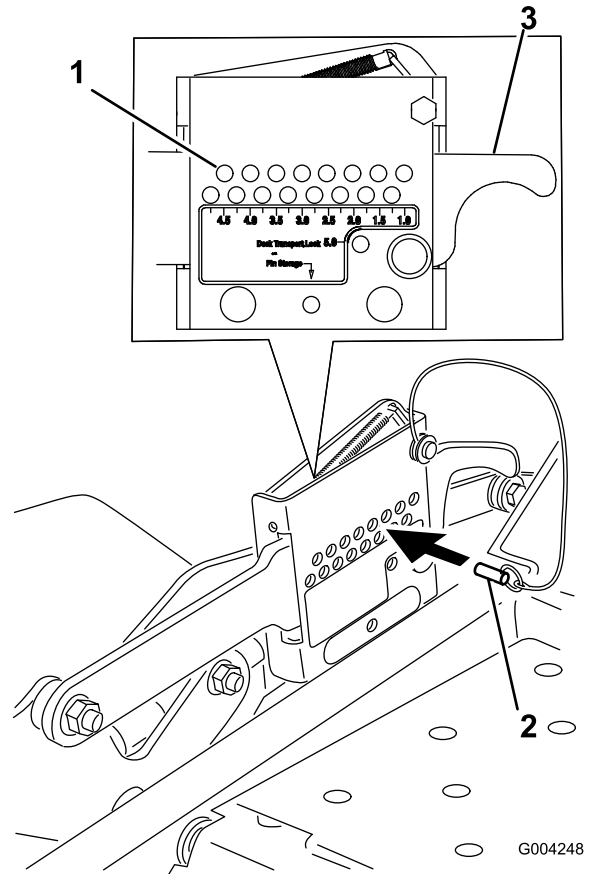

Figure 15
1. Raise the height-of-cut lever to the transport position (also the 5 inch (125 mm) cutting height position) (Figure 15).
2. To adjust, remove the clevis pin from the height-of-cut bracket (Figure 15).
3. Select a hole in the height-of-cut bracket corresponding to the height-of-cut desired and, insert the clevis pin (Figure 15).